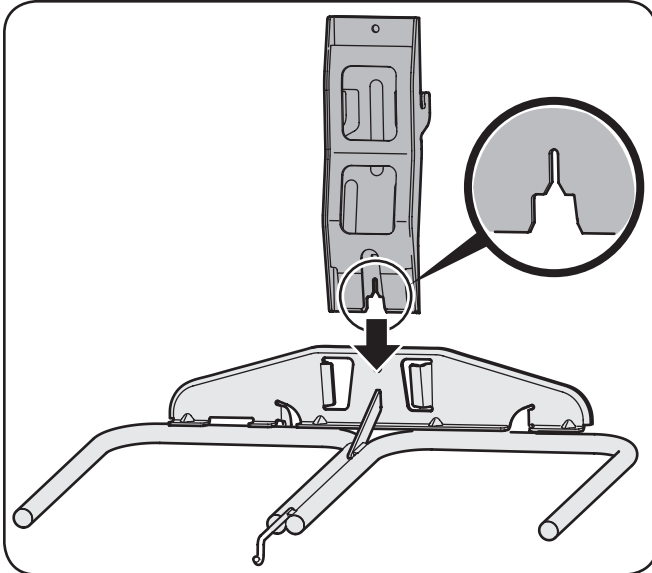
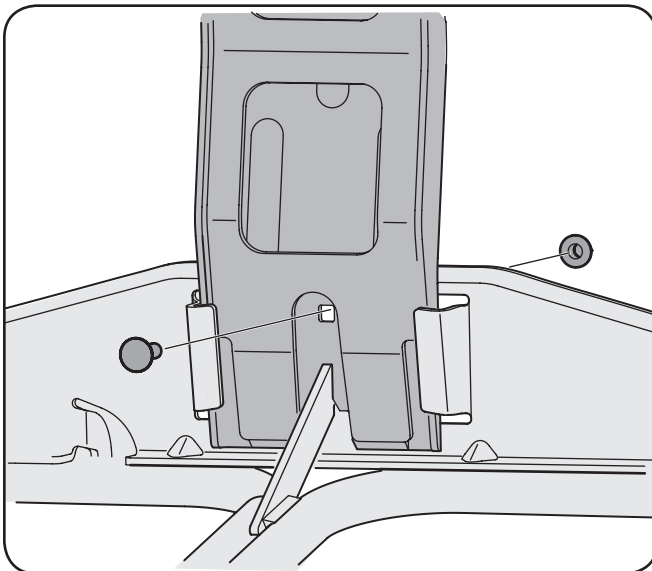

Figure 4-5
Figure 4-6
2. Insert the notched end of the vertical support bracket into the bag support assembly, as in Fig. 4-5, and secure with a 5/16-18 carriage bolt and 5/16-18 flange lock nut. See Fig. 4-6.